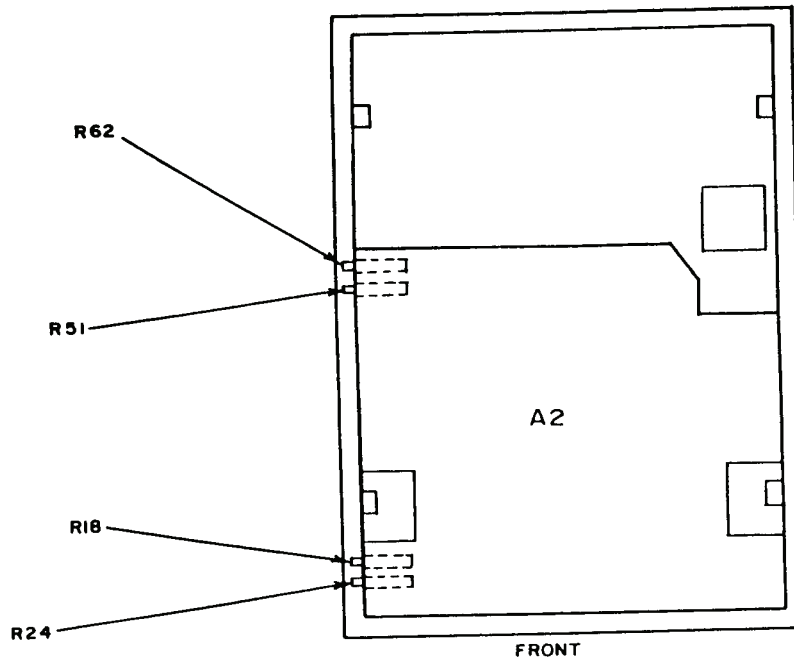

Figure 3. Test instrument - (Hewlett-Packard, Model 5306A) - bottom view.
(1) Adjust +V ADJ R24 (rear panel) to obtain +9.0000 V dc indication on measuring system (R).
(2) Adjust -V ADJ R1 (rear panel) to obtain -9.0000 V dc indication on measuring system (R).
(3) Adjust A2 R18 (fig. 3) to obtain indication of +90.000 V dc on measuring system (R).
(4) Adjust A2 R24 (fig. 3) to obtain indication of +900.000 V dc on measuring system (R).
- (1) Adjust A2 R62 (fig. 3) to obtain best in tolerance compromise of error on each range (R).
- (2) Adjust A2 R51 (fig. 3) to obtain best in tolerance compromise of error on each range (R).